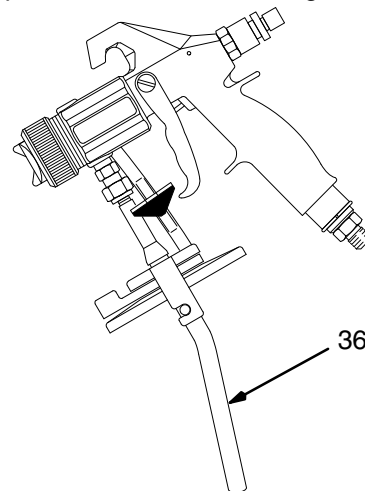

Fig. 12
For prolonged downward spraying, make sure the fluid tube (36) is positioned as shown in Fig. 12.